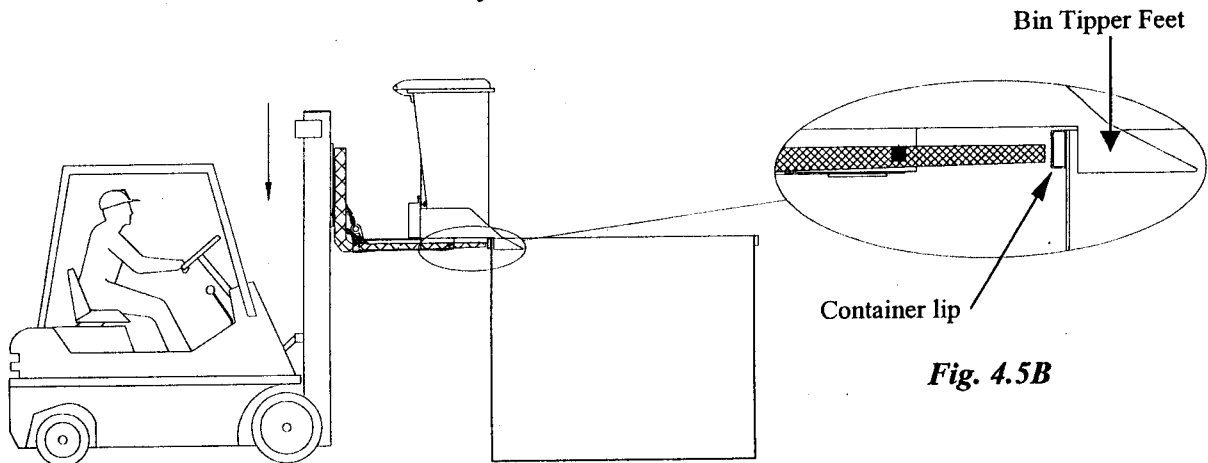
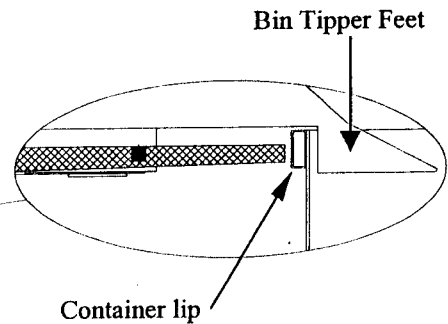

Fig. 4.5A
Fig. 4.5B
- i) To tip the Wheelie Bin Tipper, locate the forklift in the position as shown in *Fig. 4.5A*. Hook the Wheelie Bin Tipper feet onto the lip of the container as shown in *Fig. 4.5B*.